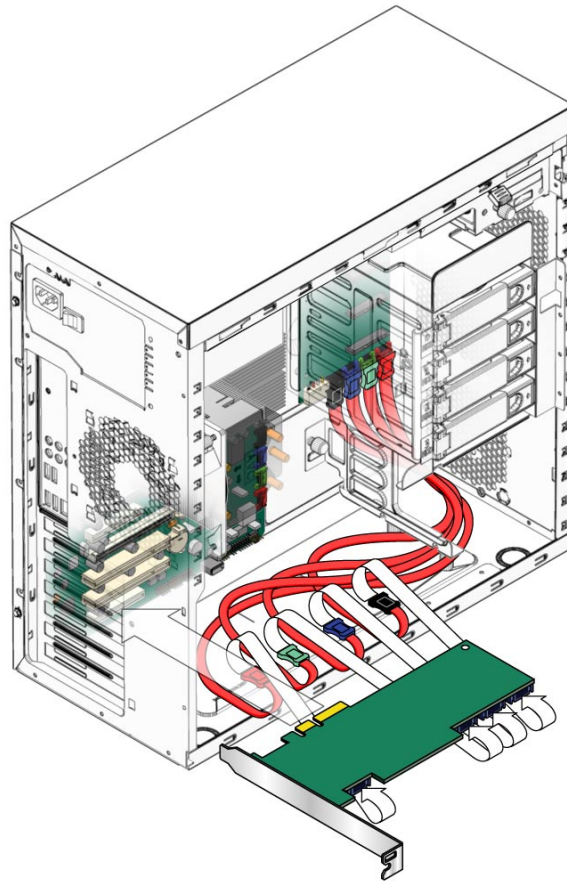

FIGURE 3-7 Installing a SAS Card
- 7 Insert the SAS card with attached cables into the PCIe slot 5, and secure the card with a screw (see Figure 3-7).